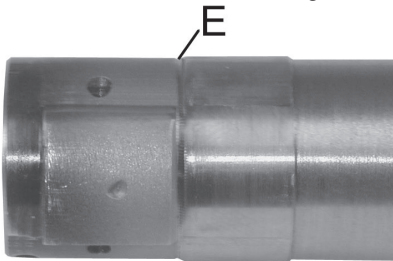

Figure 6
9. To ensure smooth forward bolt movement, machine a short, .45° chamfer (E) on the forward edge of the front and rear shims. (See Figure 6).